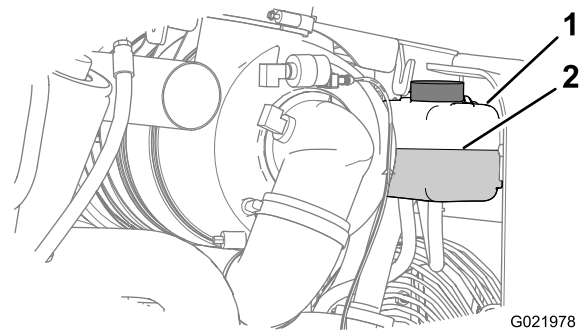

Figure 75
4. Check the coolant level in the reservoir (Figure 75).
Note: Ensure that the coolant level is between the Add mark and the Full mark on the reservoir (Figure 75).